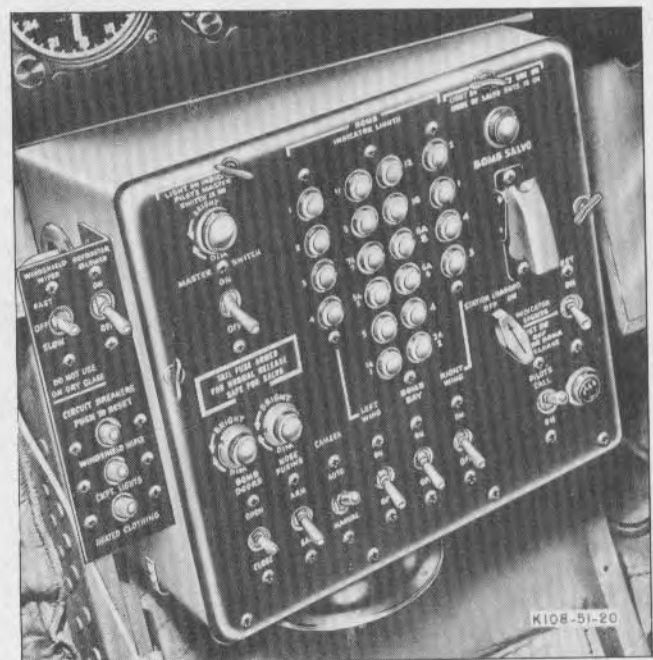
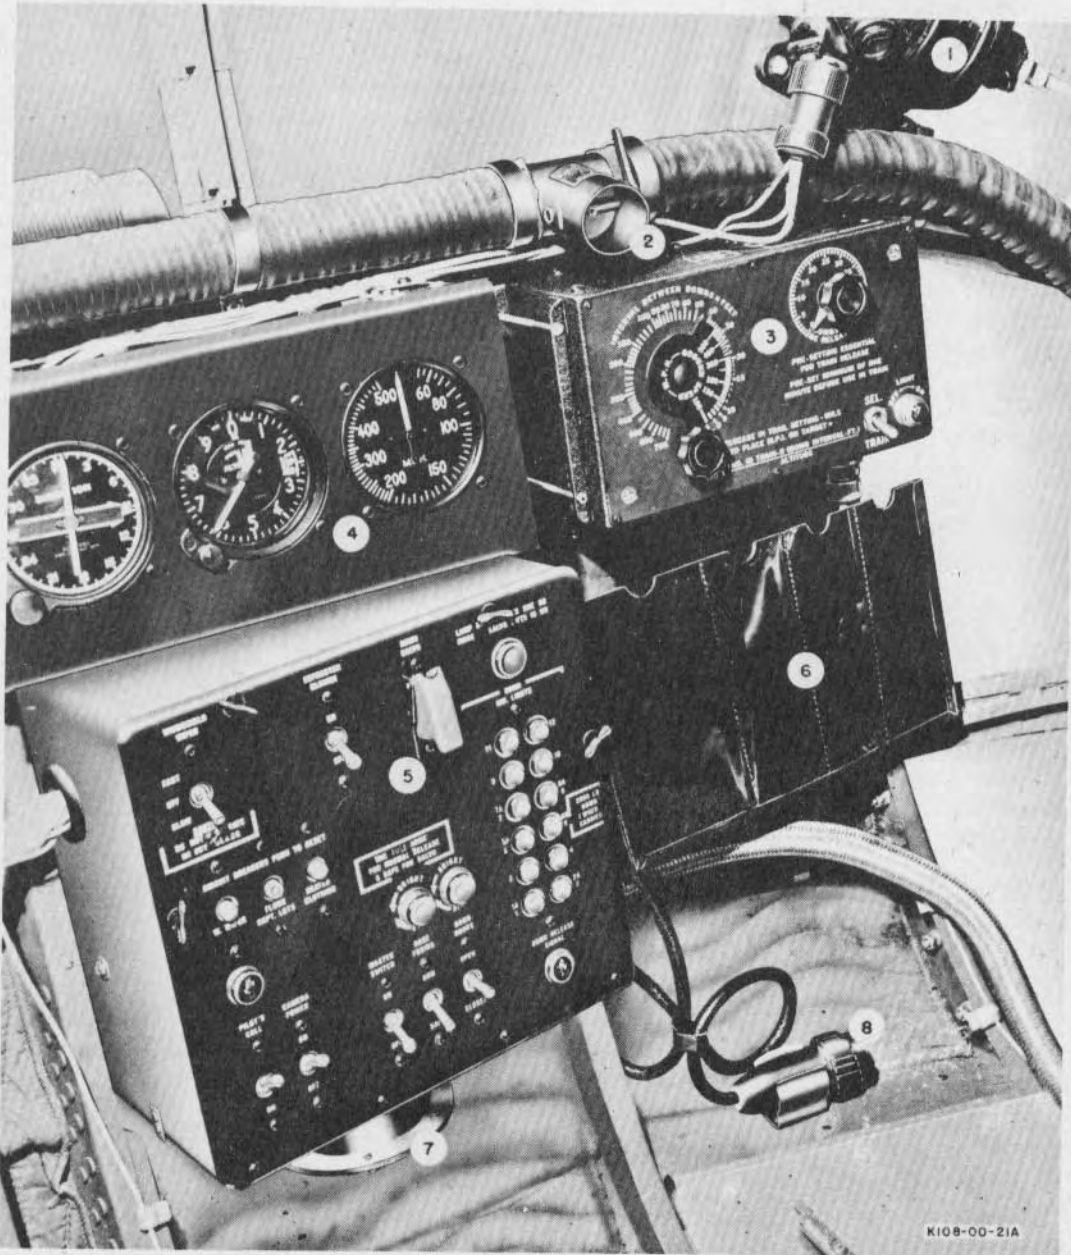

Figure 47—Bombardier's Control Panel—
Figure 48—Bombardier's Controls
(1) DESCRIPTION.—The bomb control panel, on the left side of the bombardier's compartment, incorporates bomb station indicator lights, a bomb nose fusing switch and its indicator light, a bomb system master switch, a bomb door control switch, and a bomb salvo switch (see figure 48). On late airplanes, bomb rack selector switches are mounted on the panel (see figure 47) to provide selective release of bombs from the bomb bay racks or the wing racks, if installed. The bomb release switch is stowed to the left of the bomb sight mount. The Type B-3 bomb interval control is mounted above and forward of the bomb control panel. The bombardier's instrument panel, containing a remote compass indicator, an airspeed indicator, and an altimeter, is mounted on the left side of the compartment. A free air temperature indicator is located above the panel.
(2) OPERATION.
On early airplanes (prior to 43-35984) bomb indicator lights for the BOMBARDIER'S CONTROL PANEL (Fig. 48) and PILOT'S CONTROL PANEL (Fig. 36) have bulbs mounted in only one panel, usually the pilot's. If it is desired to use lights on alternate panel it is necessary to transfer the bulbs to this panel. Never fit both panels with
bulbs as the electrical bombing system does not have sufficient power to operate both sets. On later airplanes (after 43-35984) bomb indicator lights and test switches are mounted on BOMBARDIER'S CONTROL PANEL (Fig. 47) and not on the PILOT'S CONTROL PANEL (Fig. 37).
KEY TO FIGURE 48